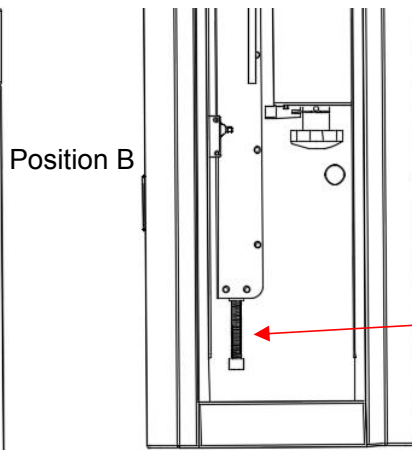

Figure 5-2
- 2) If the boom shakes during falling or lifting, adjust position C. The shaking that occurs during lifting is caused by the overlarge spring force. In this case, loosen the screws. If the boom shakes during falling, tighten the screws. See Figure 5-2.